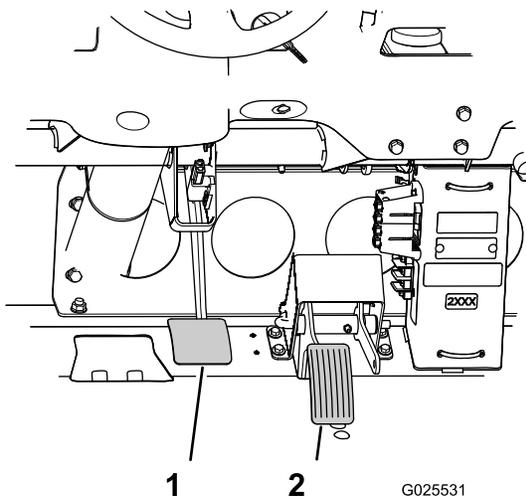

Figure 82
3. Lift up on the brake pedal (Figure 82) until it contacts the frame.